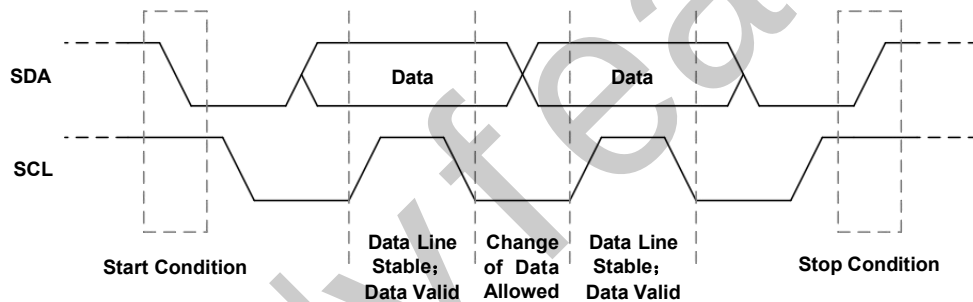

Figure 2. Start Condition, Stop Condition, and Data Bit Transmission in I²C Communication
The I2C interface employs the serial data line (SDA) and the serial clock line (SCL) to facilitate bidirectional communication among interconnected IC devices. Both SDA and SCL require external pull-up resistors (RP) to the supply voltage. Data transfer is permitted only when the bus is idle, meaning both SDA and SCL remain in a high state. Under the I2C protocol, each SCL clock pulse accommodates exactly one data bit. While the clock signal is high, the logic state on SDA must be held stable; any transition on SDA during this interval is interpreted as a control signal rather than data. When the bus is idle and SCL is high, a falling edge on SDA signifies a start condition, whereas a rising edge on SDA under the same conditions indicates a stop condition, as illustrated in Figure 2.